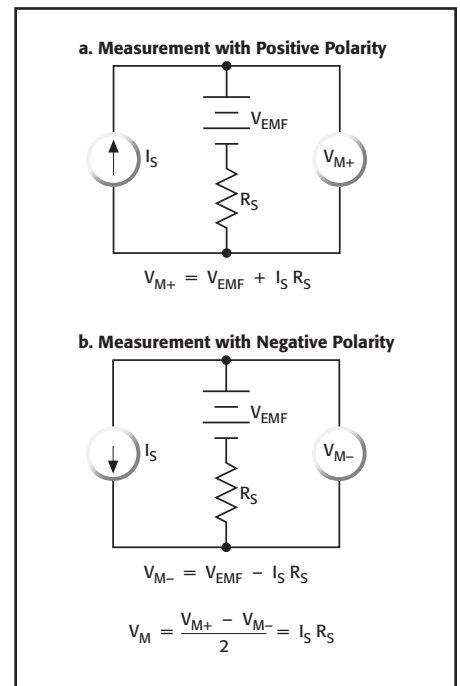

Figure 5b. Canceling thermoelectric EMFs with Current Reversal
- **Current Reversal Technique/Two-Step Delta Technique (Figure 5b)** Thermoelectric EMFs can also be cancelled by taking two voltages with test currents of opposite polarity. The voltage due to the test current can now be calculated using the formula shown in Figure 5b. This method provides 2× better signal-to-noise ratio and, therefore, better accuracy than the offset compensation technique. (This is the method employed by the Model 2182A Nanovoltmeter/Model 622x Current Source combination.)